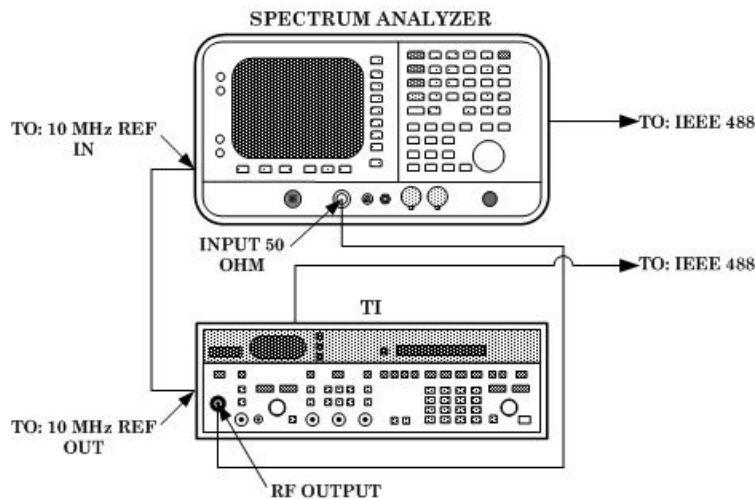

Figure 4. Harmonic, subharmonic, multiples and non-harmonic spurious hookup.
(1) Connect equipment as shown in figure 4 below.